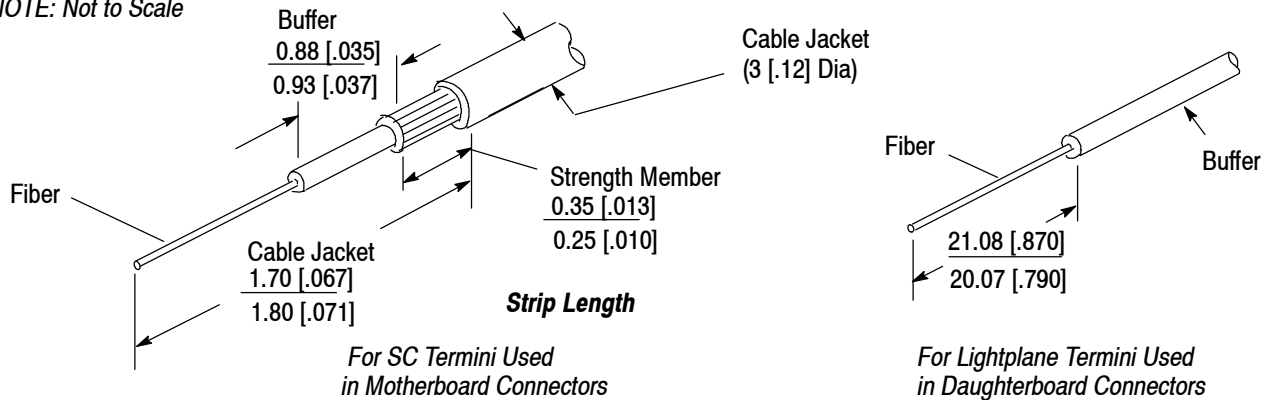

Figure 2
Cable for SC Termini must have the cable jacket and buffer stripped and the strength member cut to length. Cable for Lightplane Termini must have the buffer stripped to length. See Figure 2.
1. The cable jacket must be stripped to the length specified in Figure 2.